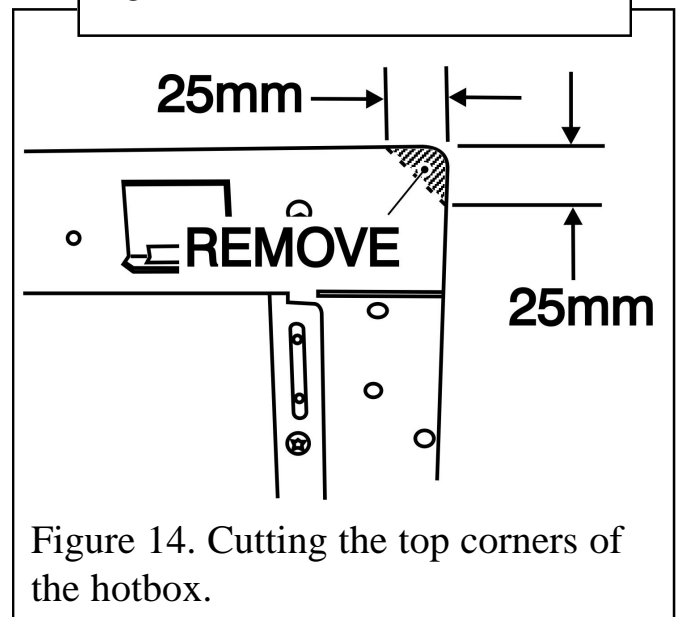

Figure 14. Cutting the top corners of the hotbox.
7. The upper corners of the hotbox flanges will have to be cut away. The area to be cut away is shown in figure 14.